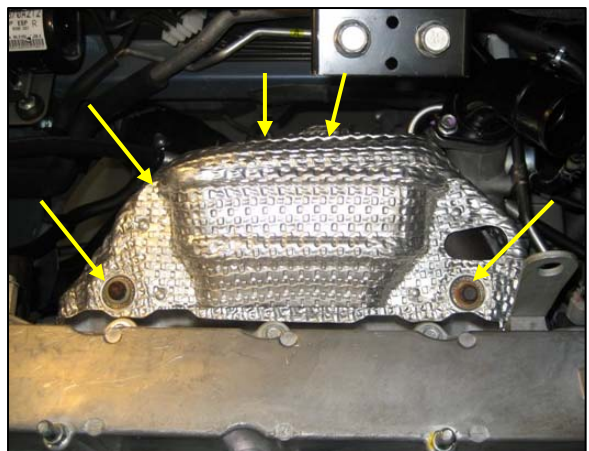

Fig. 9
- 10. Remove the heat shield covering the exhaust manifold and downpipe. These parts will be reused (5 bolts, 10mm socket). Bolt locations are shown by arrows in *Fig. 9*.